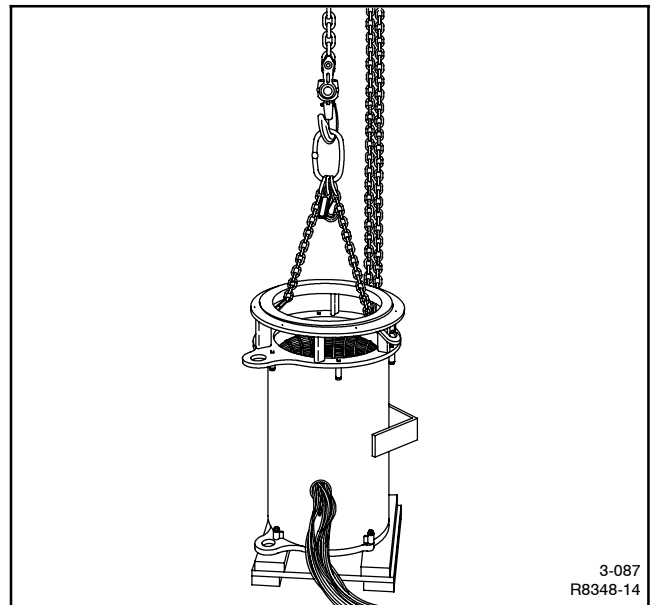

Figure 4-13 Supporting Alternator Assembly
7. Attach hoisting hooks to the adapter as shown in Figure 4-13. Suspend the alternator assembly. Before lowering the alternator, place boards along the edge of end bracket. Maintain sufficient clearance underneath the center of the end bracket to prevent damage to the photo transistor board and magnetic actuator when installing the rotor.